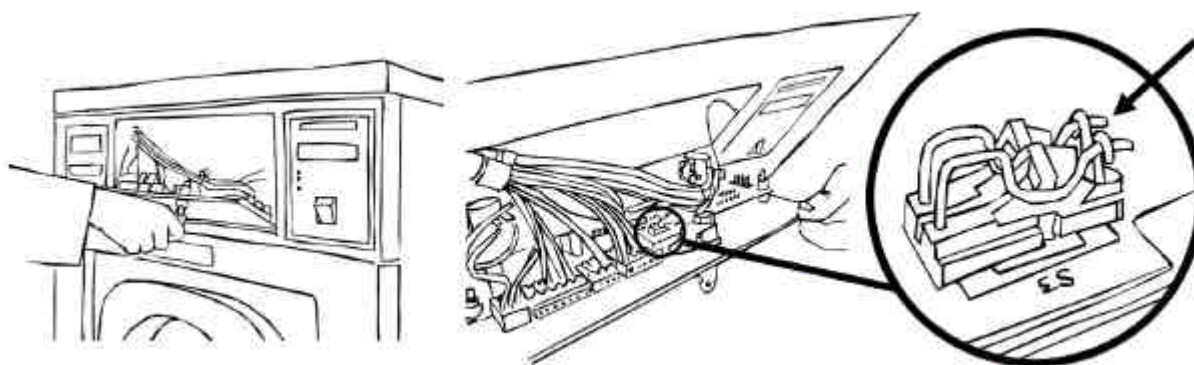

fig. 1
2. Open machine front panel with a key. Refer to **fig. 1**. Be careful not to damage or disconnect any control component.
3. Access to the switch indicated on **fig. 1**. The switch position, indicates the type of control: